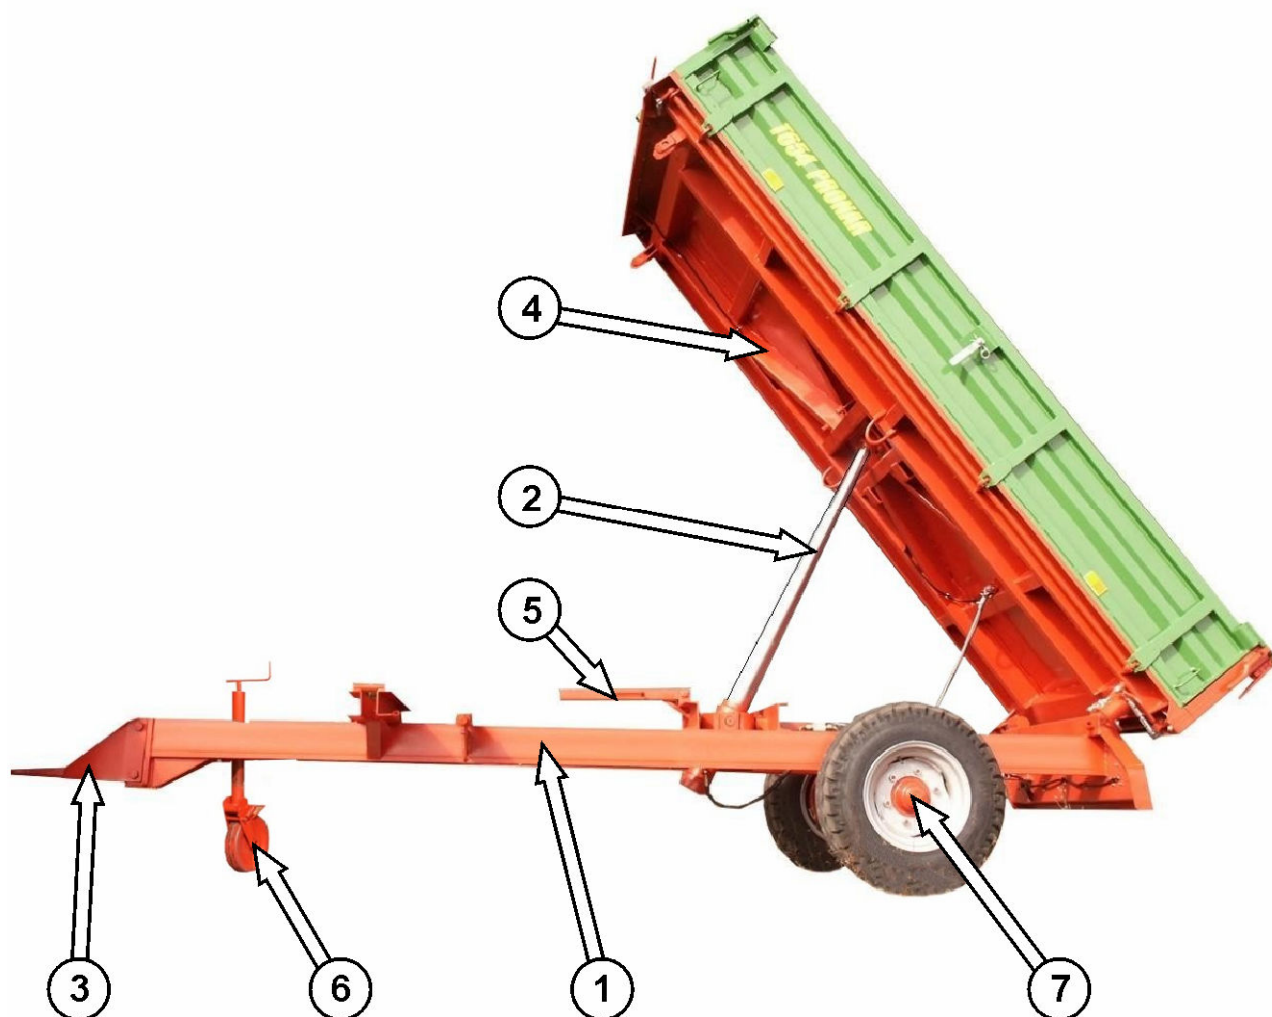

Fig. 3 Undercarriage & upper frame
Trailer's undercarriage consists of parts shown on the Fig. 3. The lower frame (3) is a welded structure made of steel profiles. Main carrying elements are two stringers connected each to other with cross-bars.